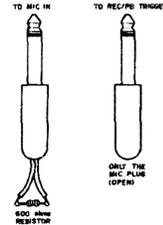

Fig. 5-2
- 1) Connect the 600 ohms dummy plug to MIC and only the Mic plug (open) to REC/PB TRIGGER on the rear panel. (Refer to Fig. 5-2.)